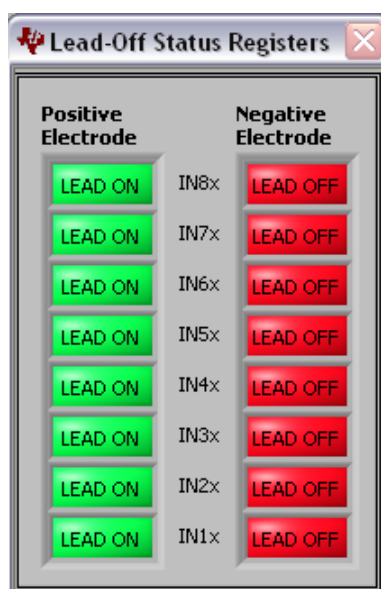
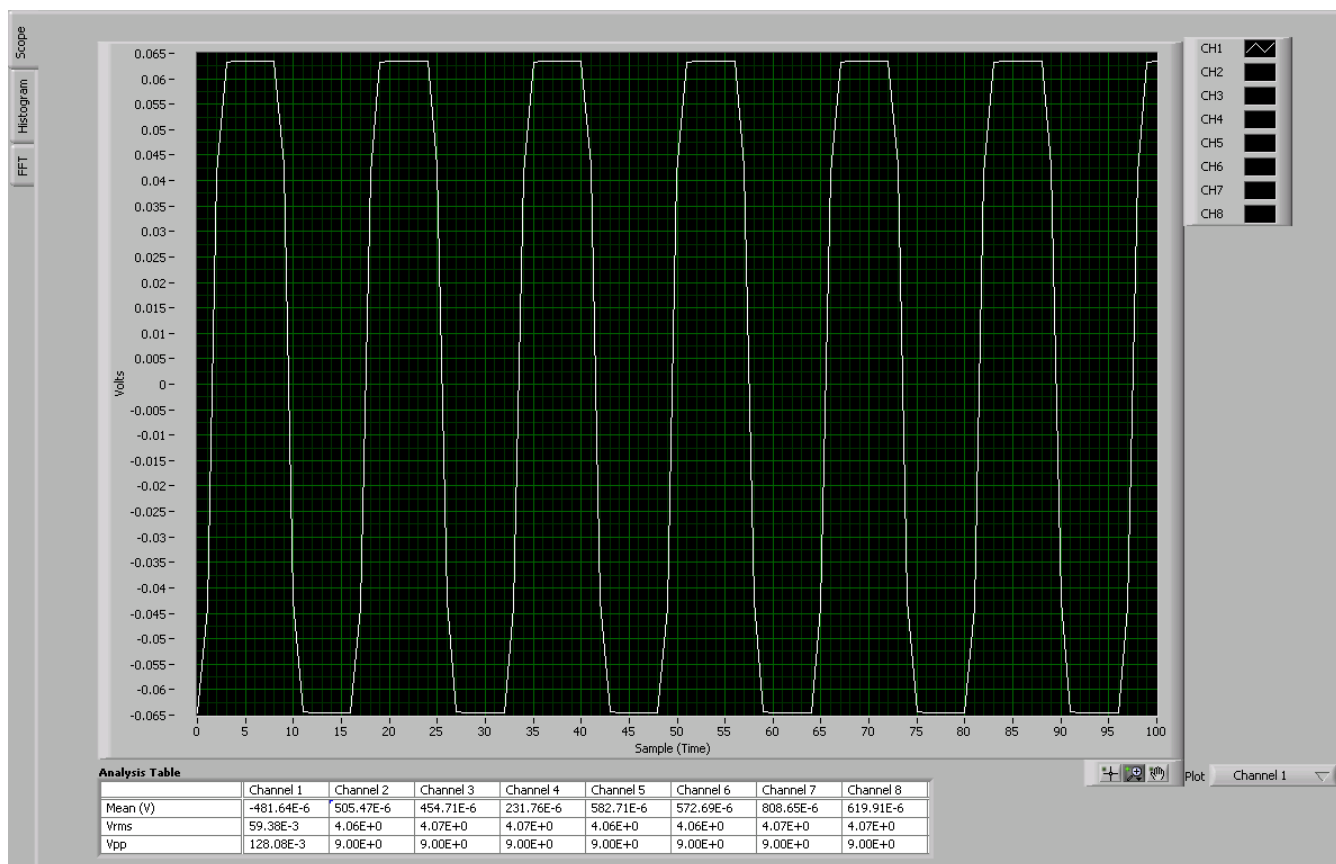
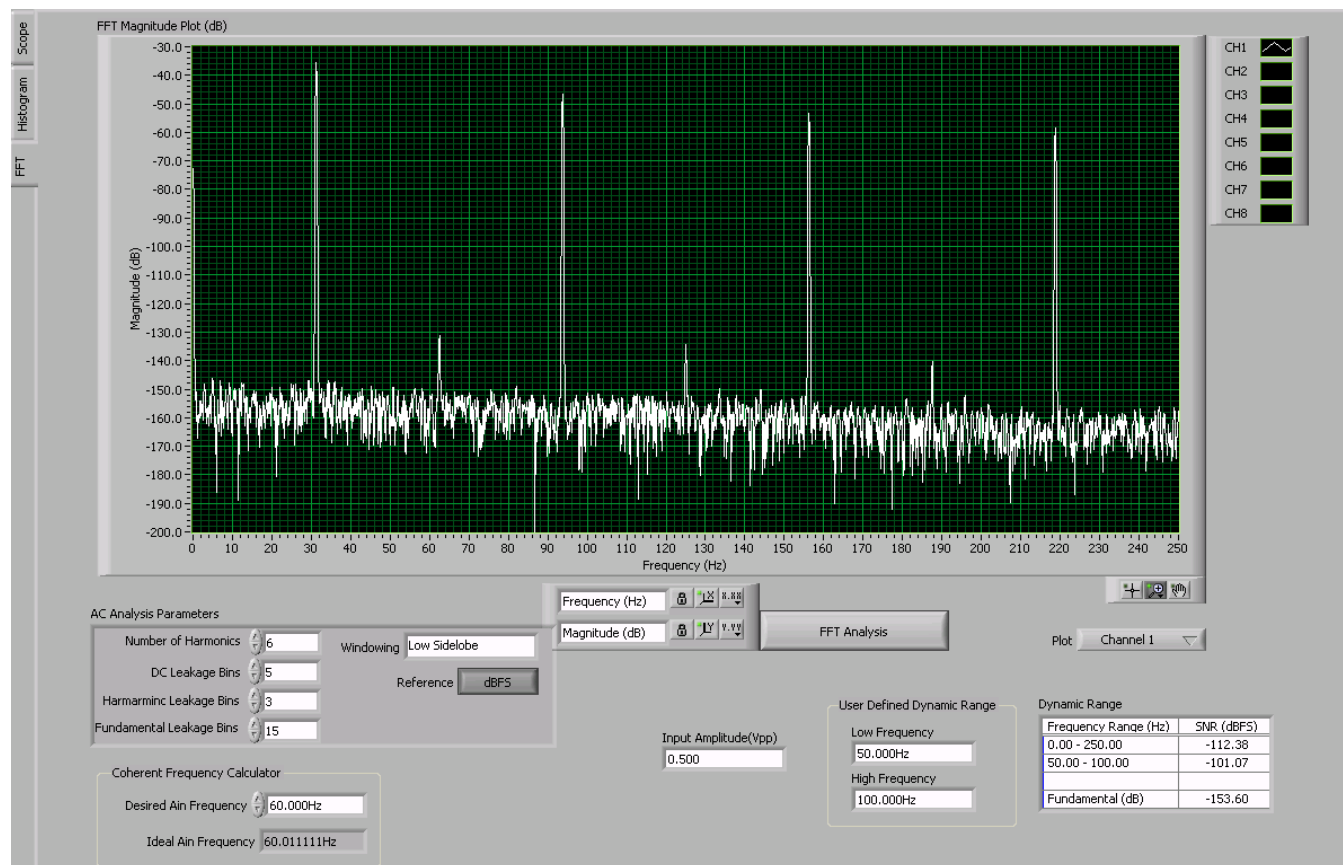

Figure 43. Lead off Status Registers
Figure 44. Scope tab for Impedance Measurement at 31.25 Hz
Figure 45. FFT Analysis for Impedance Measurement at 31.25 Hz
- Step 4. The software has an option where the LOFF_STATP and LOFF_STATM Registers are continuously polled (set the *Read Status Registers* switch as shown in shown in Figure 43). This option allows the user to see the lead-off detection scheme work in real time. Figure 44 shows a case for which only positive electrodes are connected.
As an example Figure 44 shows the snapshot of the scope with 5K impedance on each source with 6 μA of lead-off current at 31.25 Hz. We expect a theoretical peak to peak voltage of 120mV. The observed peak-to-peak voltage is 128mV which is within the tolerance specification of current source. The results can also be analyzed in frequency domain using the FFT analysis tab as shown in Figure 45. The magnitude of the fundamental component will be directly proportional to the electrode impedance being measured.